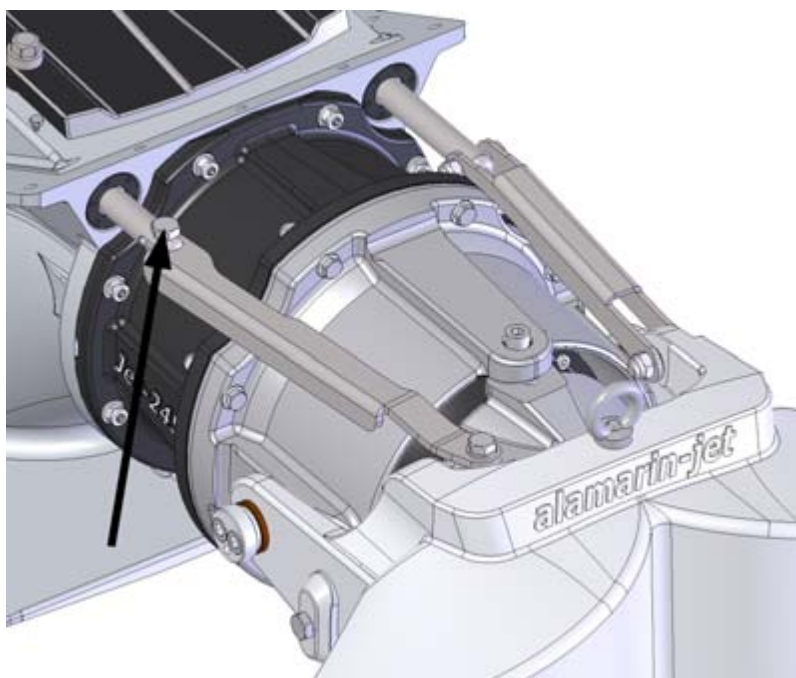

Figure 80. Connection between the control cylinder connecting rod and piston rod
2. Remove the connection between the control cylinder connecting rod and piston rod (figure 80).